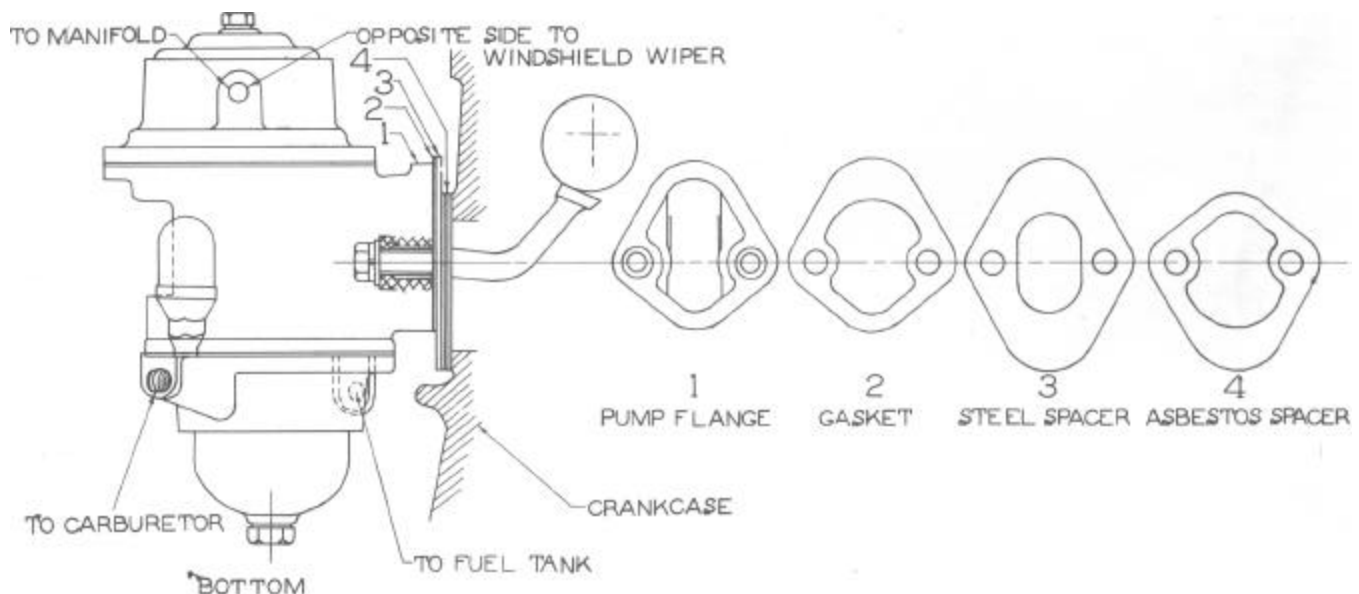

Figure 37 Installing Combination Fuel and Vacuum Pump All Models
10. Install gasket, plate and spacer over bolts as shown in Figure 37 and install comb. pump to crankcase bolting securely.